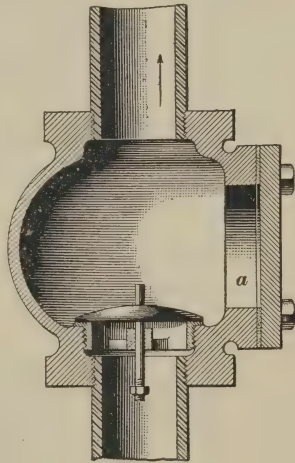

FIG. 80
**128.** Check-valves are valves that permit a fluid to pass through them in only one direction; they are designed so as to close automatically whenever the flow of the fluid is reversed. Check-valves are made in different forms, such as *vertical*, *horizontal*, *angle*, and *straightway*, or *swinging*, *check-valves*. The first is made with a globe-shaped body to allow a free passage for the fluid through the opening in the seat. The partition has either a tapering or a flat seat; the disk is fitted with a stem that is supported by a guide, so as to keep it in line with the seat and prevent side motion. In the large sizes having an iron body, an opening giving access to the disk is placed in the side of the body and closed with a blind flange, shown at *a* in Fig. 80. The smaller sizes are made of brass and can be taken apart like a union. The horizontal